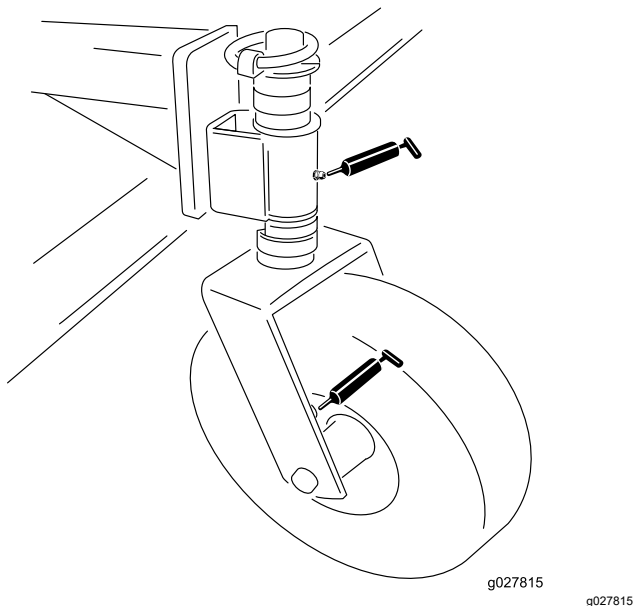

Figure 7
- Caster wheel (2 each) (Figure 7)